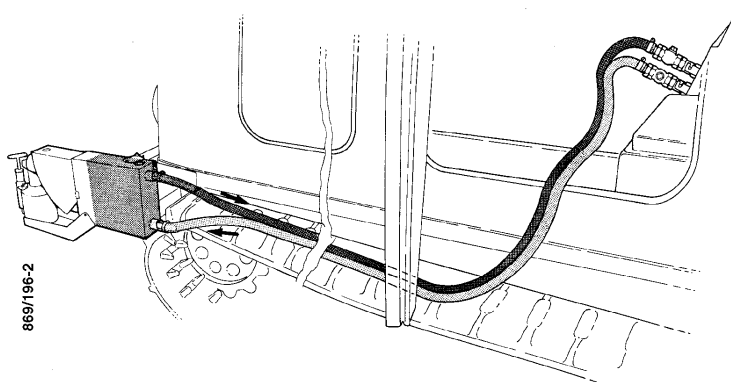

Fig 4. Heater connected
1. Connect the engine heater UWE. The upper hose of the heater is connected to the upper union in the car and the lower hose is connected to the lower union in the car. See fig 4.